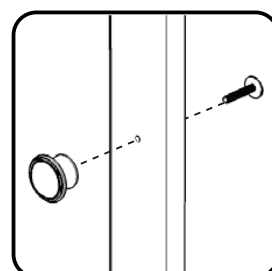

Figure 7
Attach Knob to Door (N) with Machine Screw. (See Figure 7)